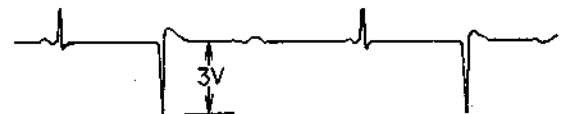

Fig. 9
- (1) Connect Oscilloscope to Collector of Transistor Q-10. While playing back a Video Signal Recorded Tape, confirm that the Negative Pulse Amplitude is more than 3 Vp-p as shown in Fig. 9.